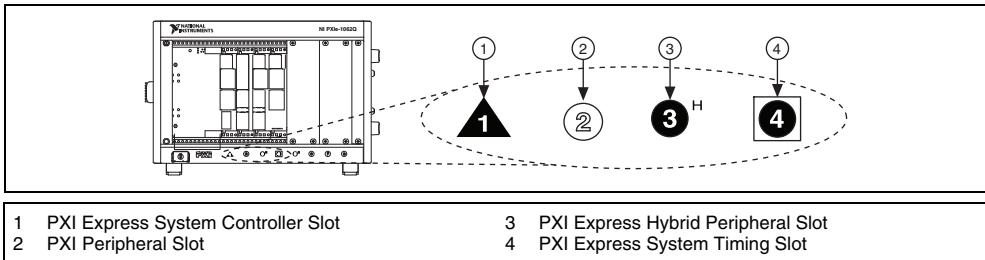

Figure 2. Symbols for PXI Express/PXI Express Hybrid/PXI Slots
- Identify a supported PXI/PXI Express slot in the chassis. Figure 2 shows the symbols that indicate the slot types for a PXI/PXI Express chassis.